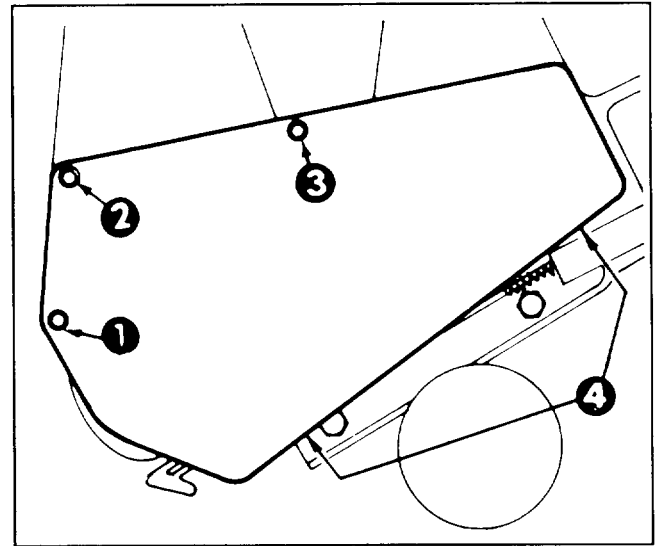

Figure 13
2. Remove (3) self tapping screws, (2) capscrews, (1) washer and (2) nuts securing belt cover to snowthrower frame (Fig. 13). Set belt cover aside.